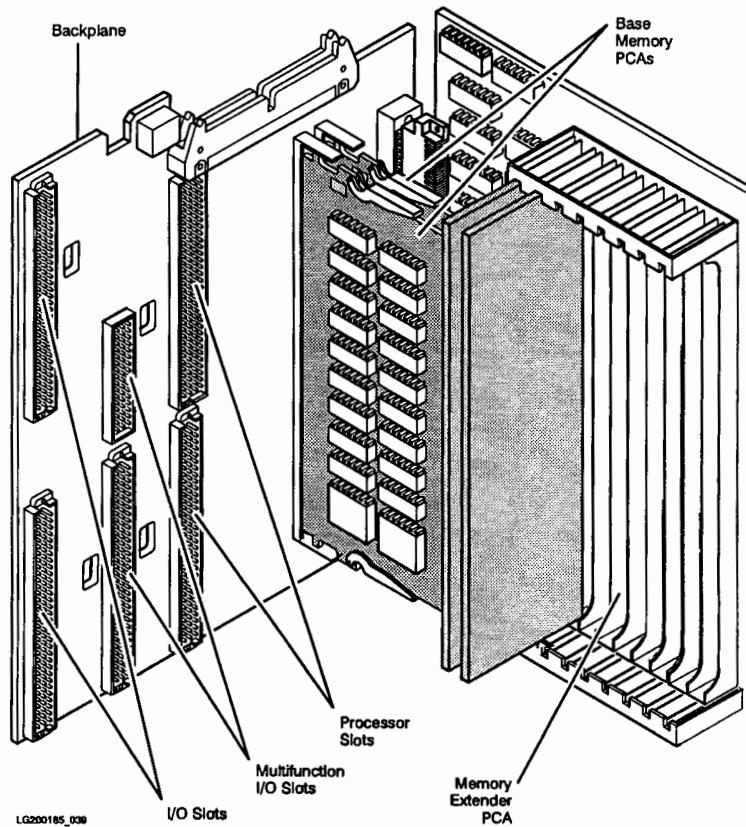

Figure 8-47. Standard Memory Extender and Memory PCA Removal
1. Figure 8-47 shows Memory PCAs on the standard backplane and a partially populated Memory Extender.